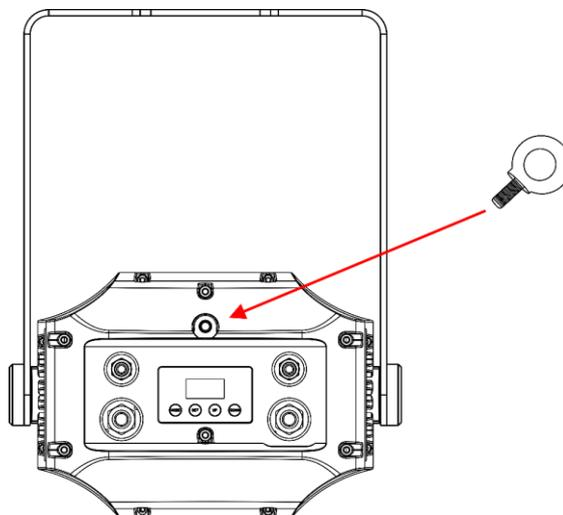

Fig. 05
- 01) Install the supplied safety eye in the **safety eye mounting hole (06)**, as shown in Fig. 05.